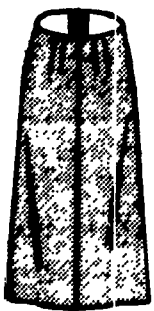

Fig. 2
**SKIRT** - part of any garment--coat, dress, etc.--that hangs below the waist. Length varies with fashion (Fig. 2).